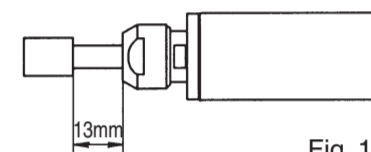

Fig. 11
④ Mount a stemmed grindstone within 13mm of over-hanging mode. When mounting a stemmed grindstone longer than 13mm over-hanging mode, use it by slowing down the motor speed. (Fig. 11, Table-4)